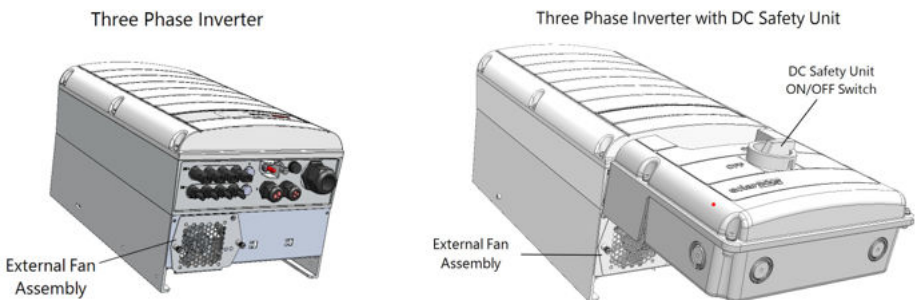

Figure 1: Location of the External Fan Assembly
2. Turn OFF the ON/OFF Switch on the DC Safety Unit, displayed in Figure 1, (if applicable), and the AC breaker on the distribution panel.